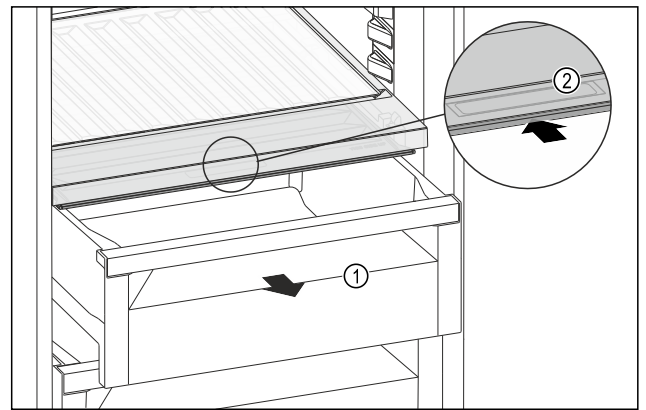

Fig. 190
- ▶ Pull out the drawer Fig. 190 (1).
- ▶ Grasp the recessed grip Fig. 190 (2) on the compartment lid and push the compartment lid backwards at the same time.